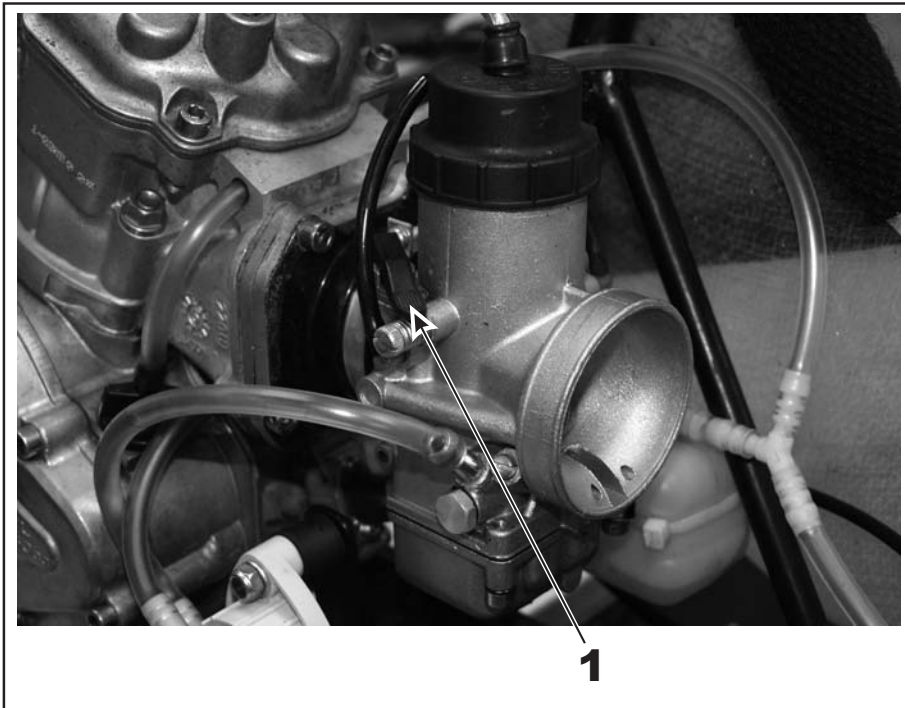

Fig. 20
- ➔ On a cold engine pull the choke lever (Pos. 1) into a vertical position. (Fig. 20)